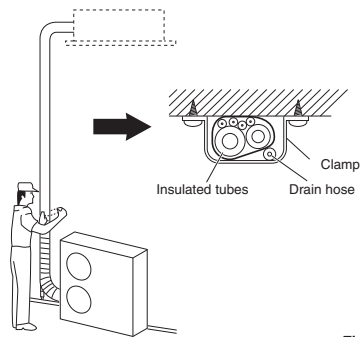

Fig. 5-9
- Clamp the tubing bundle to the wall, using 1 clamp approx. each meter. (Fig. 5-9)